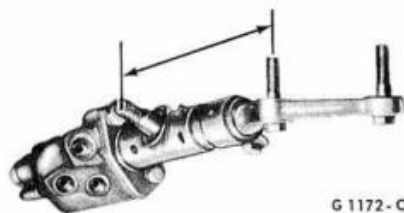

FIG. 8—Control Valve Length Adjustment—Mustang 6-Cylinder
1. Place the stud in a straight vertical position. Measure from the center of the stud parallel to the bolt mounting surface (Fig. 8) to the